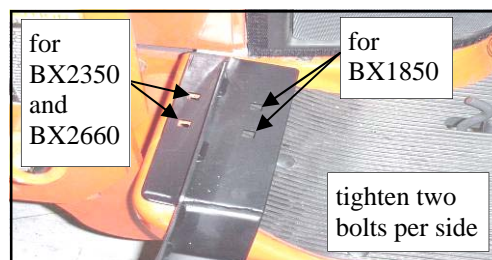
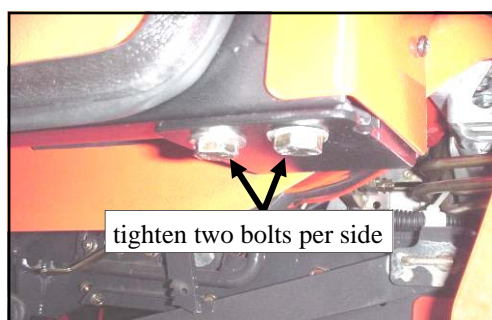

Fig. 16.1 (view from front of left side)
Fig. 16.1.1 (view from front of right side)
**16.1** Tighten a total of eight (8) bolts at this time. Tighten two per side between vehicle and frame front as shown in figure 16.1. Tighten two per side between the frame front assembly and sideframe as shown in figure 16.1.1.